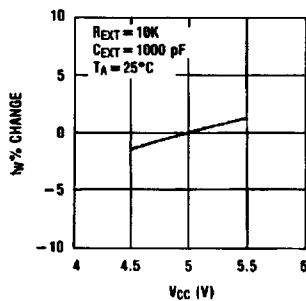

FIGURE 6
8. Output pulse width variation versus V_{CC} and temperatures: Figure 6 depicts the relationship between pulse width variation versus V_{CC} , and Figure 7 depicts pulse width variation versus temperatures.